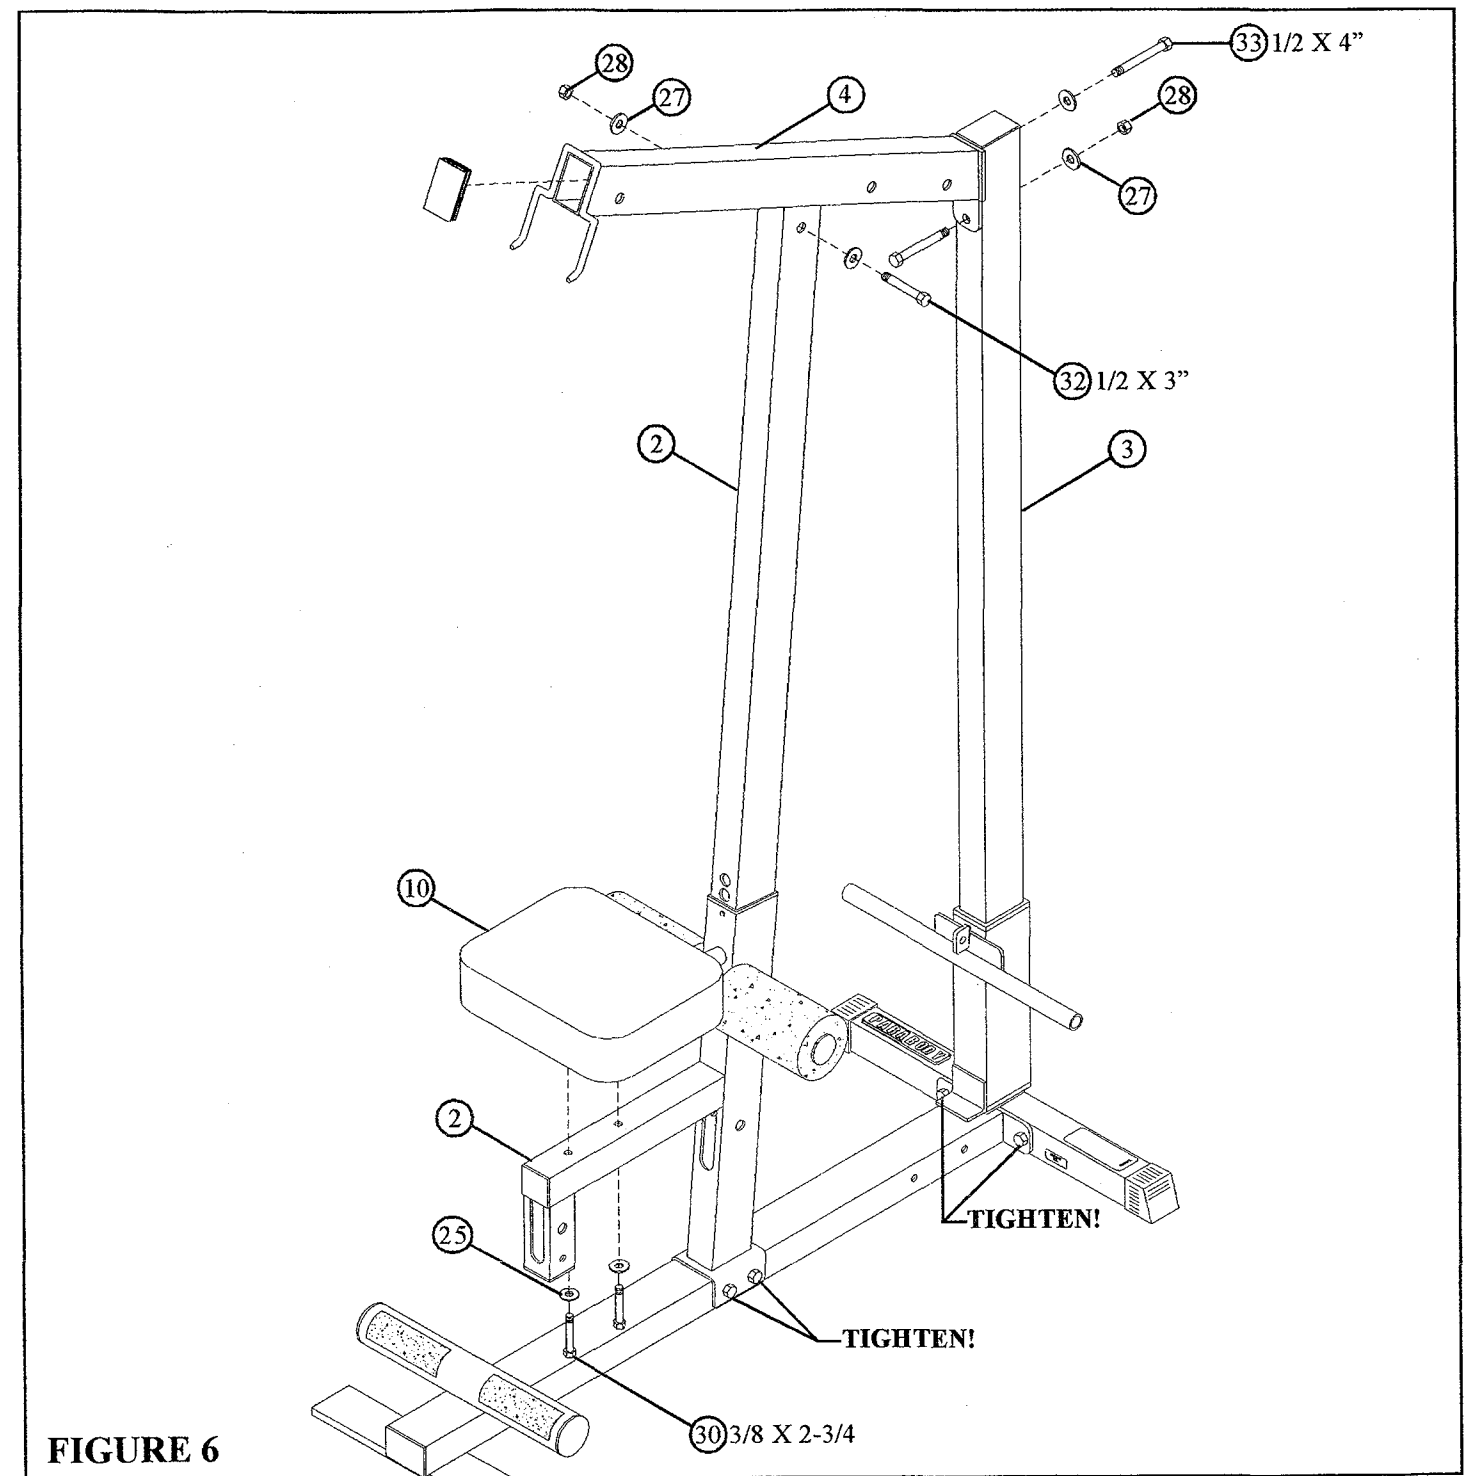

**FIGURE 5**
- **CAREFULLY** slide the ROLLER PAD SUPPORT (6) over into the FRONT UPRIGHT (2) and engage the SPRING PIN into one of the adjustment holes. See FIGURE 5.
- **CAREFULLY** slide the CARRIAGE (5) over into the REAR UPRIGHT (3) as shown in FIGURE 5.